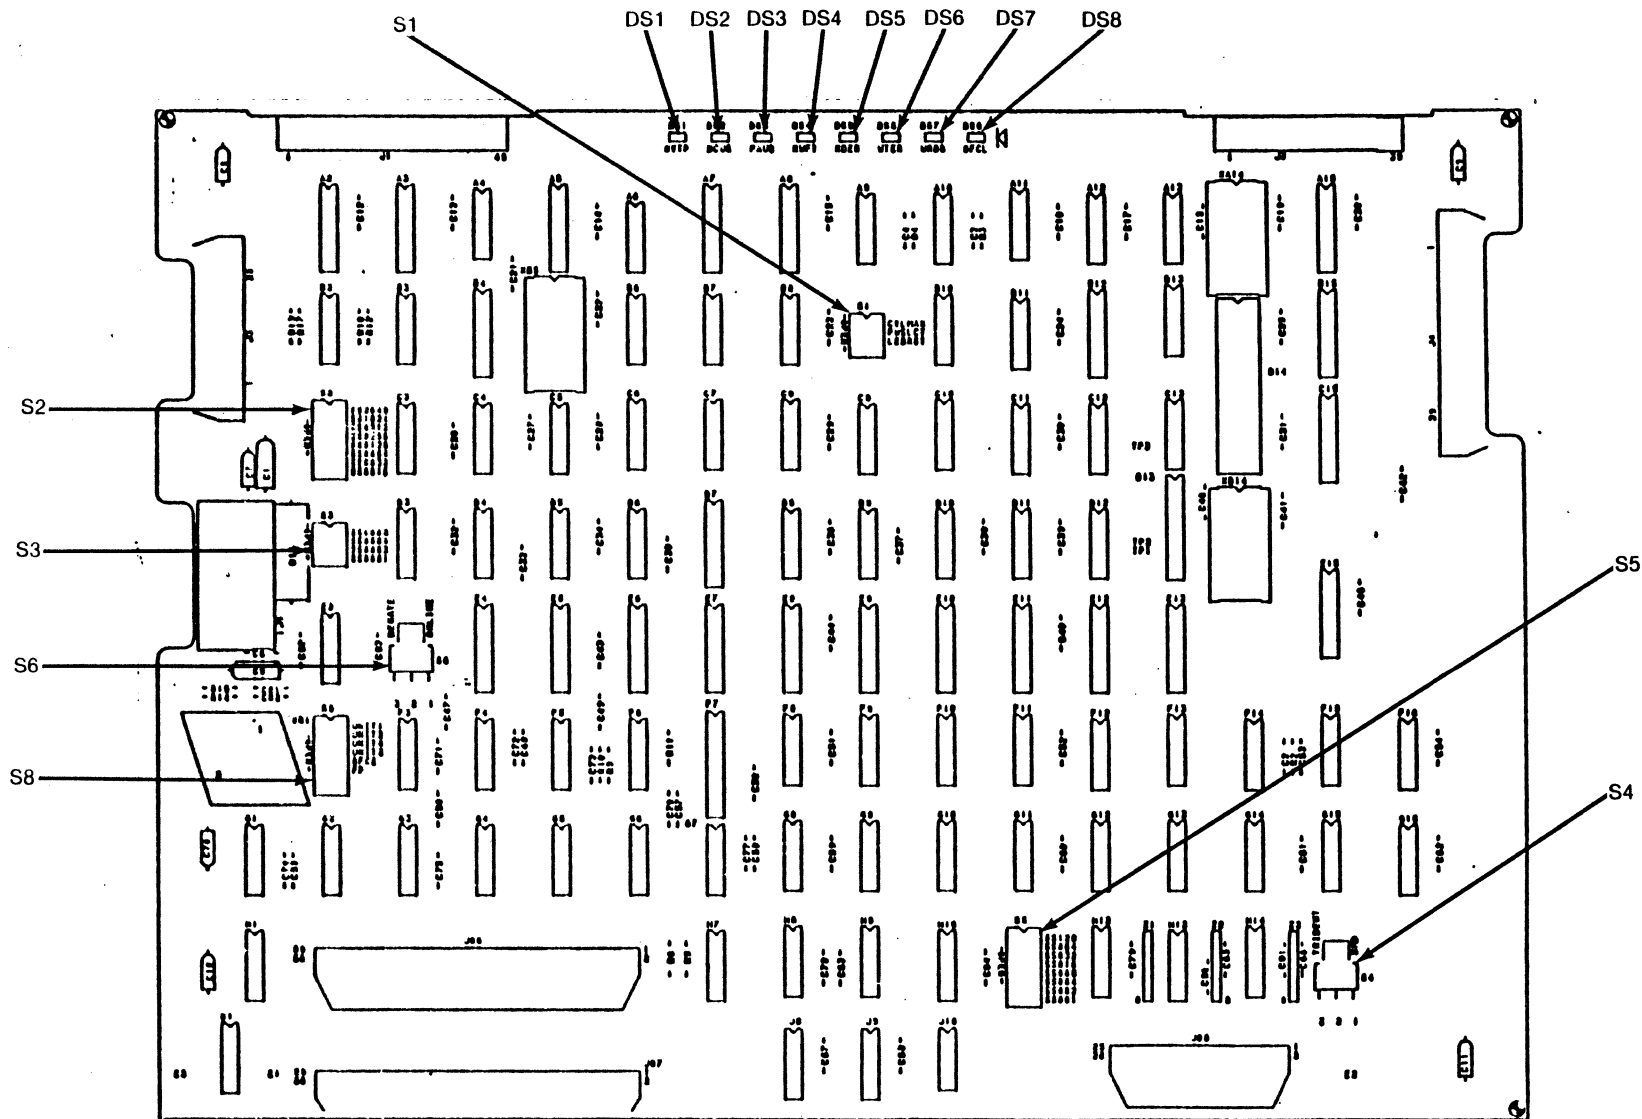

Figure C-4. SMD Single Access I/O PWB (P/N 27546-001) Switches and LED's
2. Figures C-1, C-2 and C-3 show the switch blocks located on the P/N 26902-001 SMD Single Access I/O PWB and also the switch blocks located on the P/N 27348-001 SMD Single Access I/O PWB. Figures C-4 and C-5 show the switch blocks located on the P/N 27546-001 SMD Single Access I/O PWB.
Maximum Cylinder Switch (See Figures C-4 and C-5)
Sector Pulse Width Switch (See Figures C-4 and C-5)
Fault Clear Switch (See Figures C-4 and C-5)
Sector Switches (See Figures C-4 and C-5)
Unit Select Switches (See Figures C-4 and C-5)
Offset Clear Switch (See Figures C-4 and C-5)
Degate Switch (See Figures C-4 and C-5)
Address Mark Switch (S4) (See Figures C-4 and C-5)
Sector Stop Count Switch (See Figures C-4 and C-5)